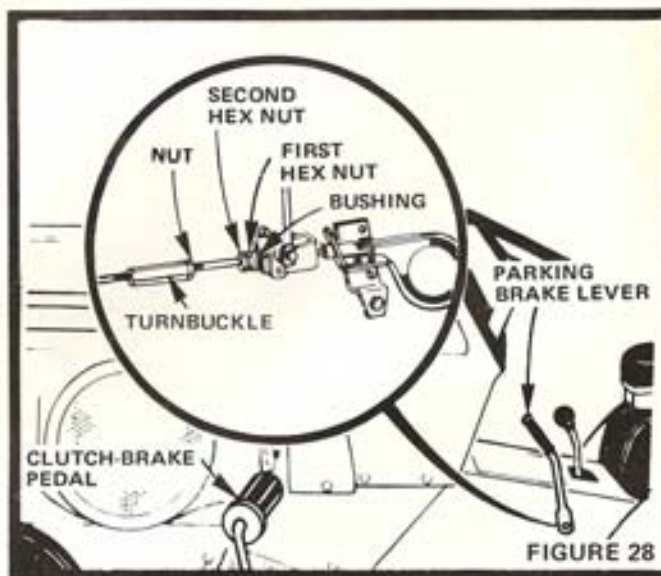

FIGURE 28
If Clutch-Brake Pedal (Fig. 28) has more than approximately 4 inches of travel from vertical to full brake position then brake adjustment is necessary.
- Loosen Nut (Fig. 28) in order to turn turnbuckle clockwise (from in front of tractor) one turn at a time until Clutch-Brake Pedal regains 4 inches of travel.
- Loosen Parking Brake Hex Nuts Second and First (Fig. 28).